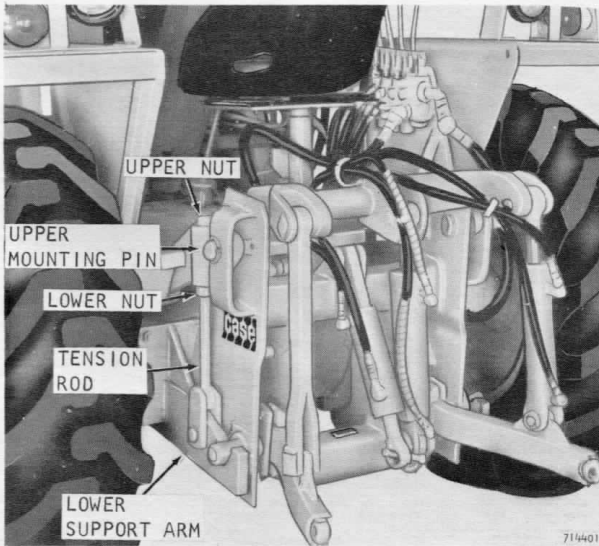

Figure 45 - Hitch Removal
2. At the rear of the tractor there are two tension rod assemblies, Figure 45. Loosen the upper and lower nuts on each tension rod. Then remove the klik pins from the upper mounting pins.